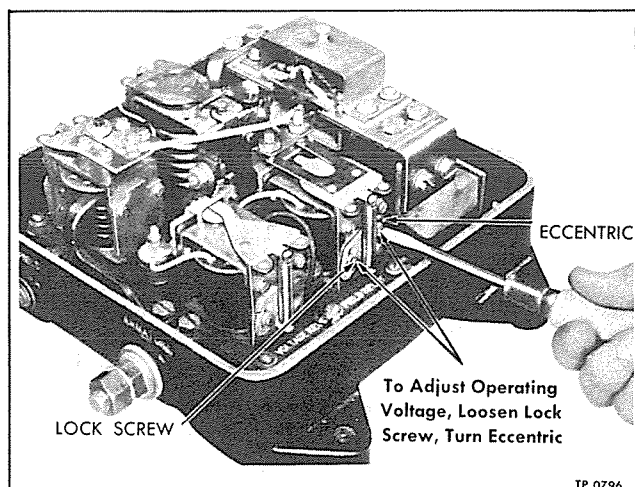

Figure 12—Field Relay Operating Voltage Adjustment
4. To adjust, loosen lock screw and turn eccentric screw to change spring tension (fig. 12). Increasing tension increases voltage setting, decreasing tension lowers voltage setting.